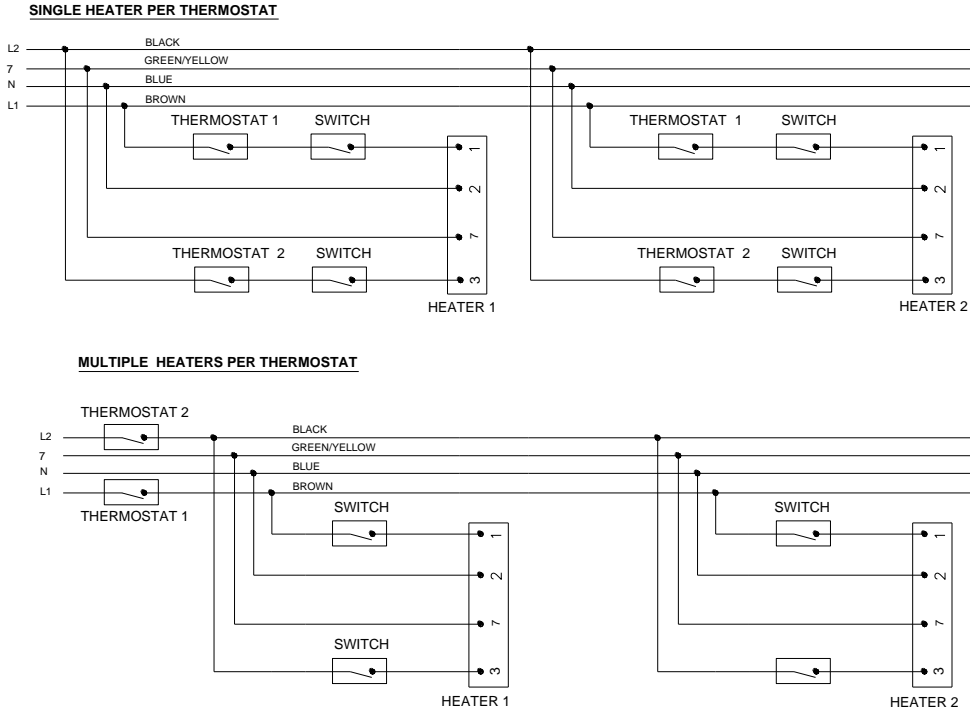

Fig. 6
Three core and earth PVC covered flexible supply cable (0.5mm² - to National or Local standard specification) must be used, with connections made as shown in Fig. 6.
3. If the appliance has a thermostat fitted in the electrical supply circuit, ensure that it is set high enough to demand heat. SRP30-Hi/Lo: ensure that the second thermostat (T2 - see Fig. 6) is set high enough to call for heat also.
10. SRP30-Hi/Lo only: with both burners ignited (see 13c) turn down the temperature setting of the second thermostat (T2-see Fig. 6) and observe that the burner furthest from the Control Valve Assembly is extinguished. Re-ignite the burner by turning up the temperature setting of the second thermostat (T2).